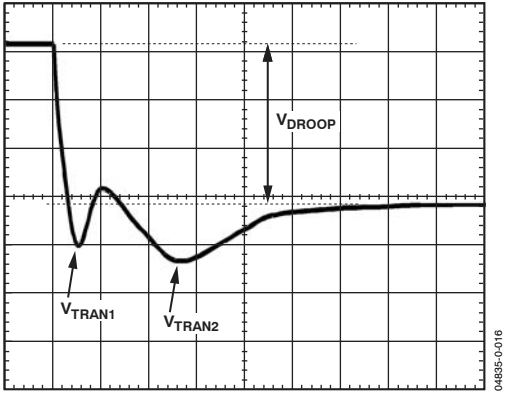
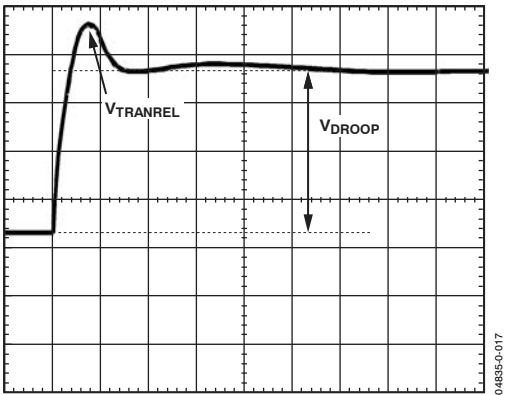

Figure 16. Transient Setting Waveform
Figure 17. Transient Setting Waveform
- $$C_{CS(NEW)} = C_{CS(OLD)} \times \frac{V_{ACDRP}}{V_{DCDRP}} \quad (38)$$
19. With the dynamic load still set at the maximum step size, expand the scope time scale to see 2  $\mu$ s/div to 5  $\mu$ s/div. The waveform may have two overshoots and one minor undershoot (see Figure 16). Here,  $V_{DROOP}$  is the final desired value.
21. For load release (see Figure 17), if  $V_{TRANREL}$  is larger than  $V_{TRAN1}$  (see Figure 16), there is not enough output capacitance. Either more capacitance is needed, or the inductor values need to be smaller. (If inductors are changed, start the design again using the spreadsheet and this tuning procedure.)